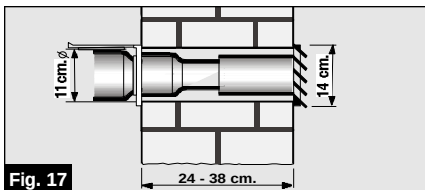

Fig. 17
- To expel hot air through the wall, it is necessary to make a hole in the wall and fit the wall grommet, **Fig. 17**.